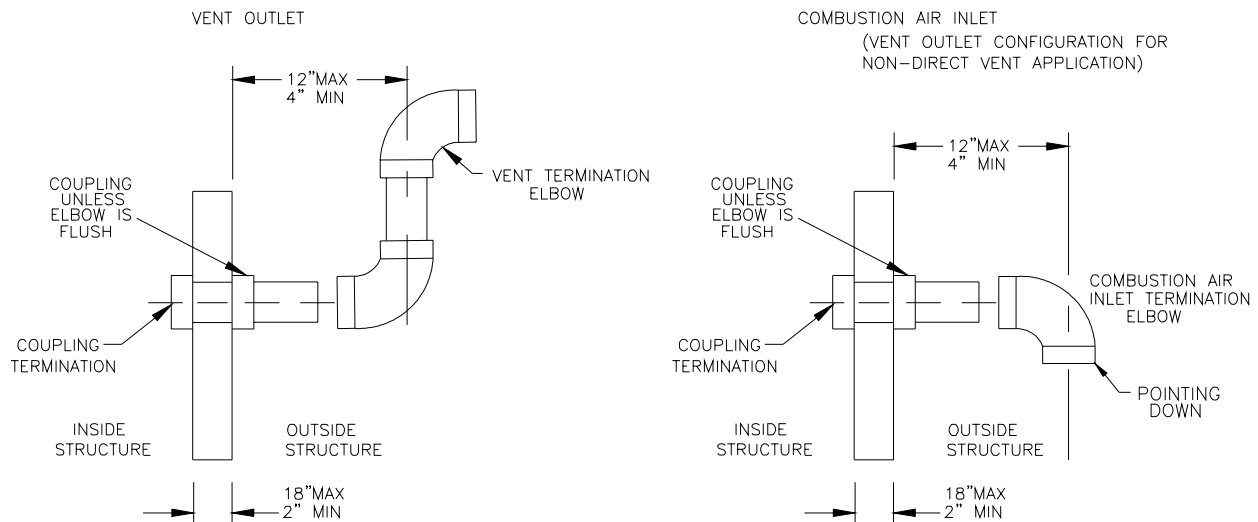
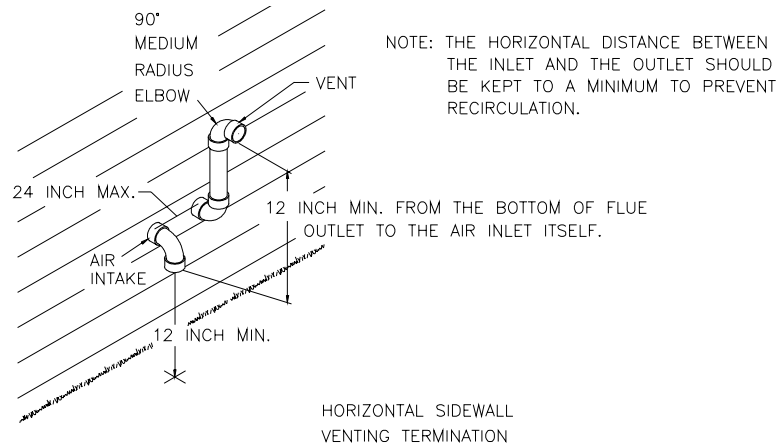

Figure 2
Figure 3
- 1. The maximum wall thickness through which the vent and combustion air pipes may pass is 18" and the minimum is 2". The maximum distance from the outer wall to the center of the elbow is 12" (See Figure 2).
2. The PVC vent termination elbow must be installed in accord with local codes and these instructions. The bottom edge of the vent termination elbow must be installed at least 12 in. above the outlet of the combustion air intake termination elbow and must be installed in the same atmospheric pressure zone (i.e. on the same wall). It is recommended that the horizontal distance between the inlet and flue termination be kept to a minimum when possible and not exceed 24 in. apart. The vent and air intake should utilize the same numbers of elbows and approximately the same length of straight pipe to reach the outside termination elbows. (See Figures 2 & 3).
This furnace may be **horizontally vented** with a single exhaust pipe. This will be a non-direct vent installation. The same exhaust venting guidelines apply except the exhaust termination will be similar to the air intake of the "2 pipe" direct vent installation. Refer to intake terminal instructions Figure 3 and Figure 5. Termination will consist of one 90° elbow pointed downward. (See figure 2)
Mark the pipe before inserting into the wall so the elbow orientation can be determined. Also, if a protective shield will be used on the exterior surface of the wall, it should be installed at this time. Glue a coupling or elbow to each pipe, depending on your installation with the PVC pipe cement being careful to maintain the proper orientation of the elbows. Complete the assembly of the outlet and inlet as shown in Figure 5, making sure that the spacing between the inlet and outlet complies with that shown in Figure 3.